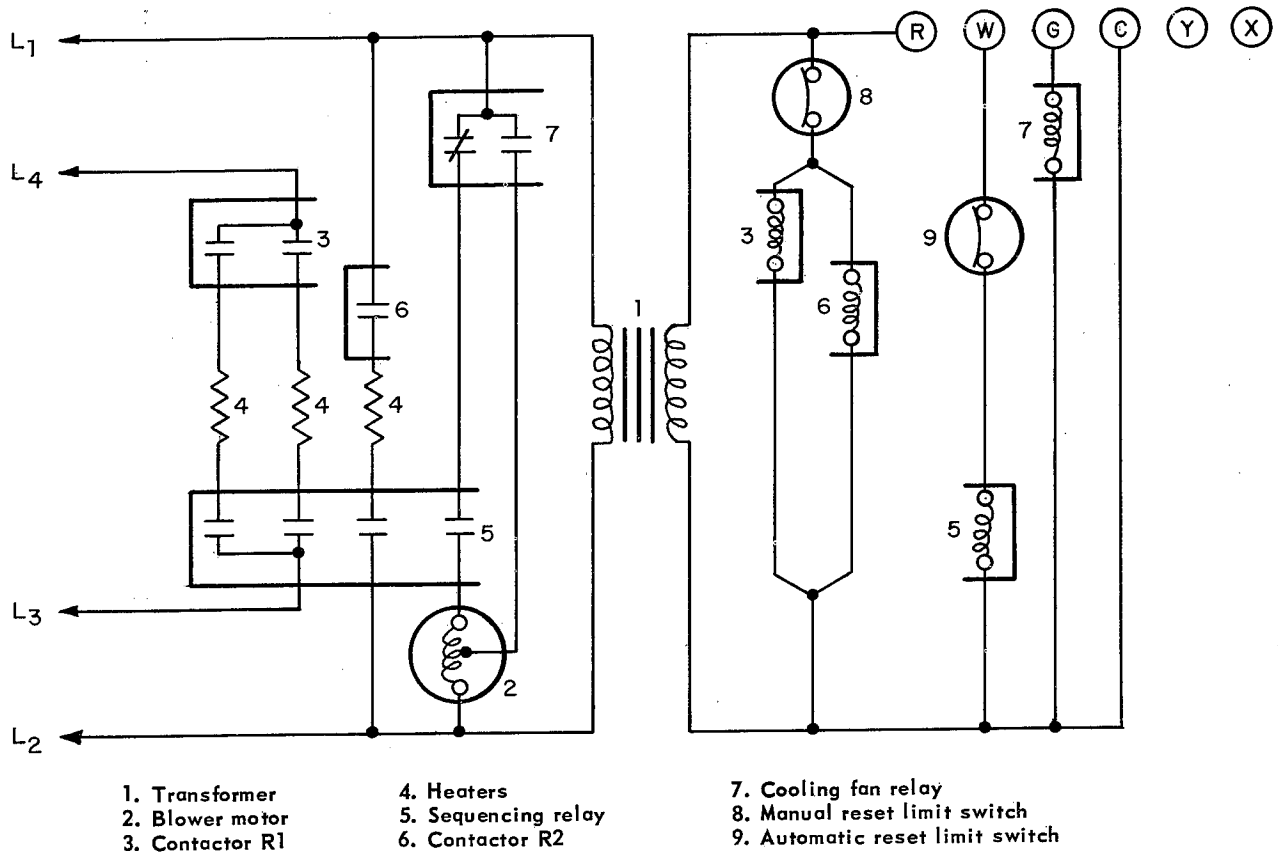

Figure 3 - Wiring Diagram for 11-, 12-, 13-, 14-, & 14.4-KW Electric Duct Heater
- A. When the thermostat calls for heating, the sequencer is energized. See Figure 3.